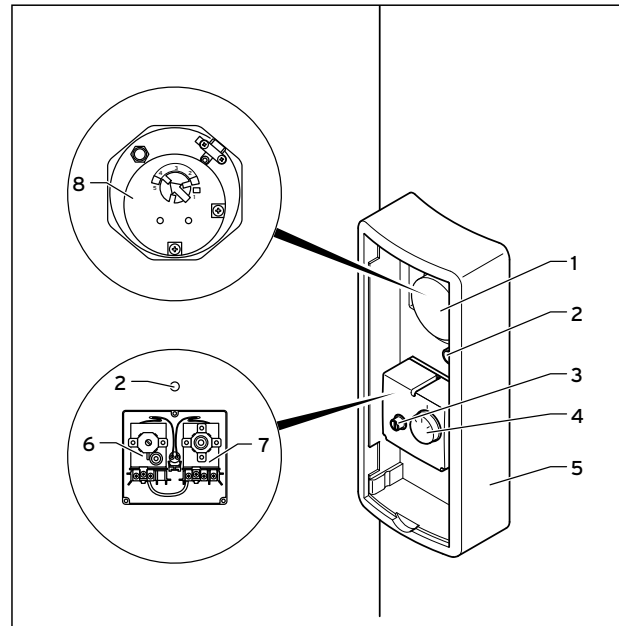

Fig. 5.7 Cylinder temperature control
Before wiring the control components, dismantle the casing (5) (→ fig. 5.7) to facilitate work on the components. When reinstalling the casing, use the cutouts in the casings for routing the cables.
- Insert the VR 10 temperature sensor delivered with the VR 65 into the immersion sleeve (**2 → fig. 5.7**) for the reheating circuit (NTC).
- Dismantle the cover of the cylinder thermostat (**7 → fig. 5.7**).